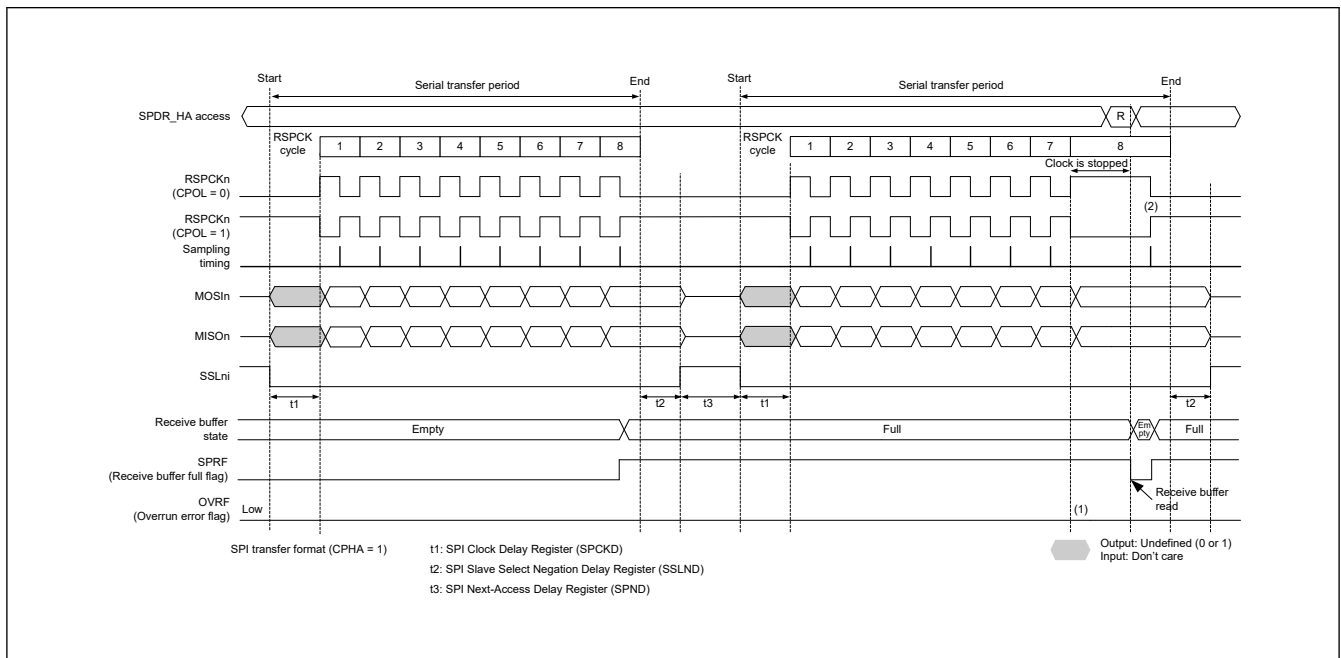
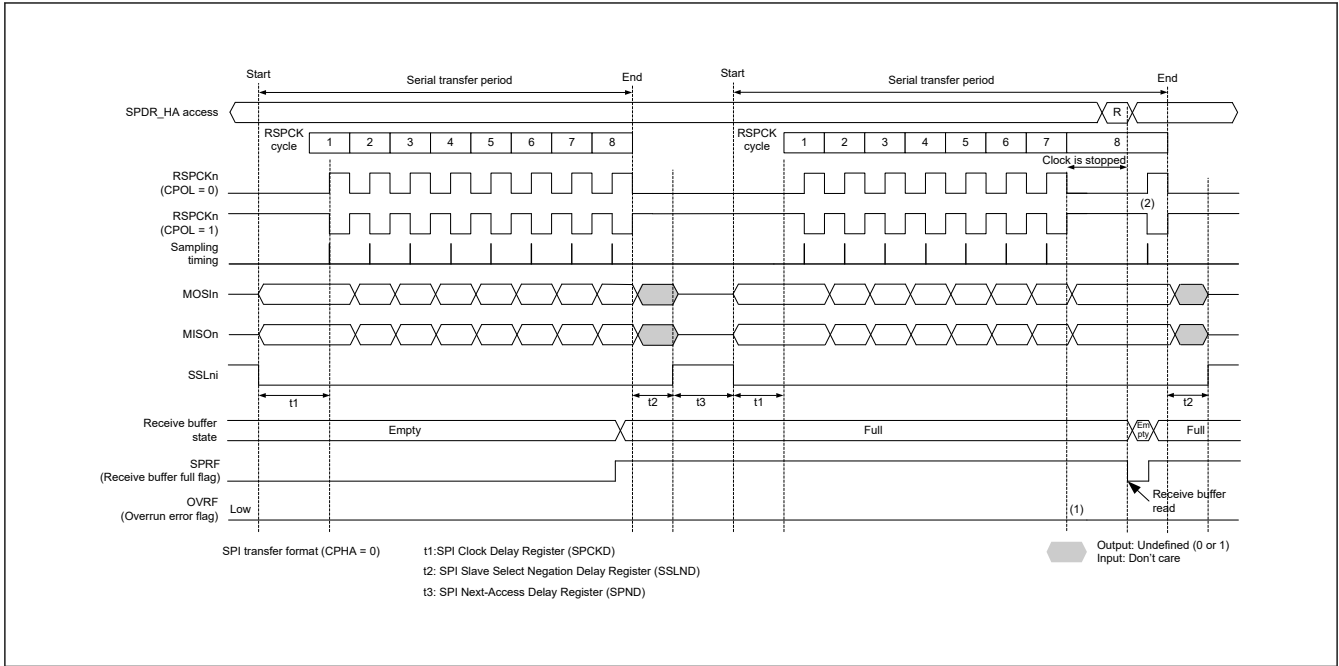

Figure 28.29 Clock stop waveform when serial transfer continues while receive buffer is full in master mode (CPHA = 1)
Figure 28.30 Clock stop waveform when serial transfer continues while receive buffer is full in master mode (CPHA = 0)
When the RSPCK auto-stop function is enabled (SPCR2.SCKASE = 1) in master mode, an overrun error does not occur. Figure 28.29 and Figure 28.30 show the clock stop waveform when a serial transfer continues while the receive buffer is full in master mode.
The operation of the flags at timings (1) and (2) in Figure 28.29 and Figure 28.30 is as follows: